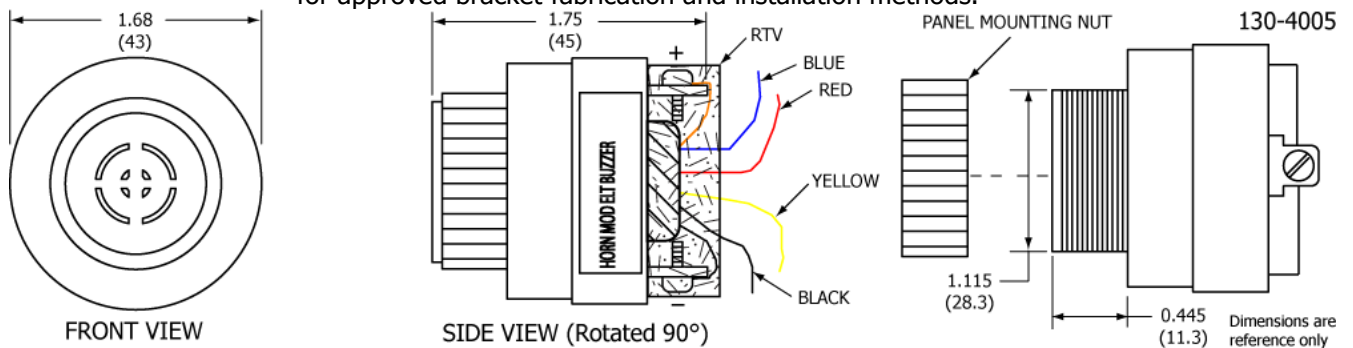

Figure 33 Modified Buzzer Outline and Dimensions
- 1) Fabricate a bracket suitable for supporting the buzzer. See Figure 33 Modified Buzzer Outline and Dimensions.